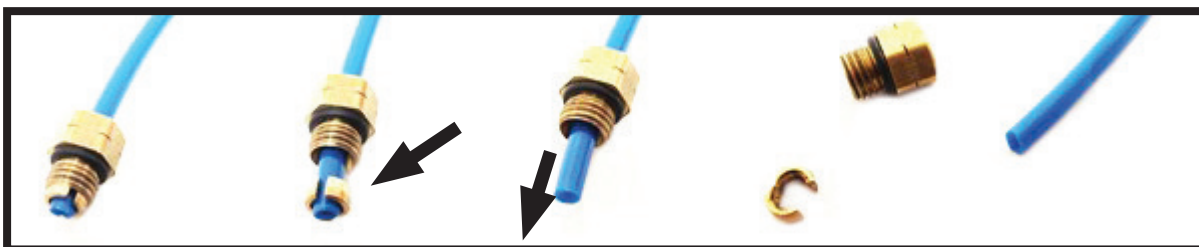

FIGURE 7
10. REMOVE THE AIR LINE FITTING. TO DO THIS REMOVE THE COLLET AND THE REMAINING FITTING WILL SLIDE OFF OF AIR HOSE. (FIGURE 7)